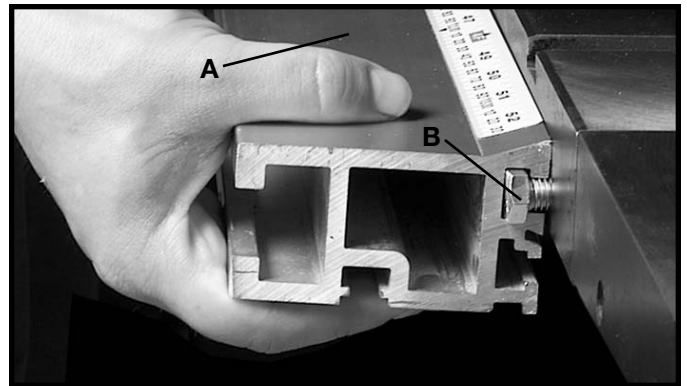
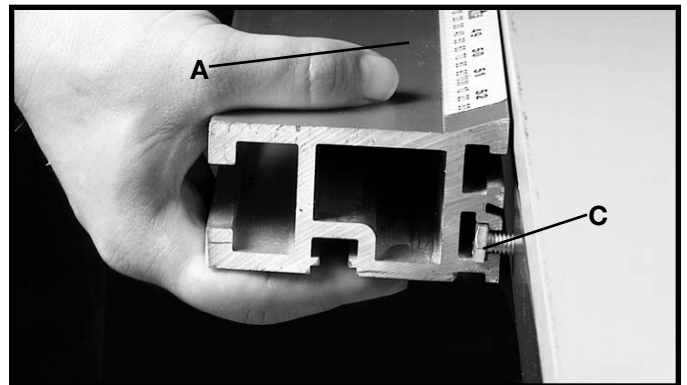

Fig. 51
Fig. 52
5. Slide the T-Slot guide rail (A) Fig. 51, onto the hex head of the bolts partially inserted in step 3 and 4 above. **Note: The bolt heads on the saw table slide into the upper t-slot (B) Fig. 51 and the bolt head on the extension table slide into the lower t-slot (C) Fig. 52.**